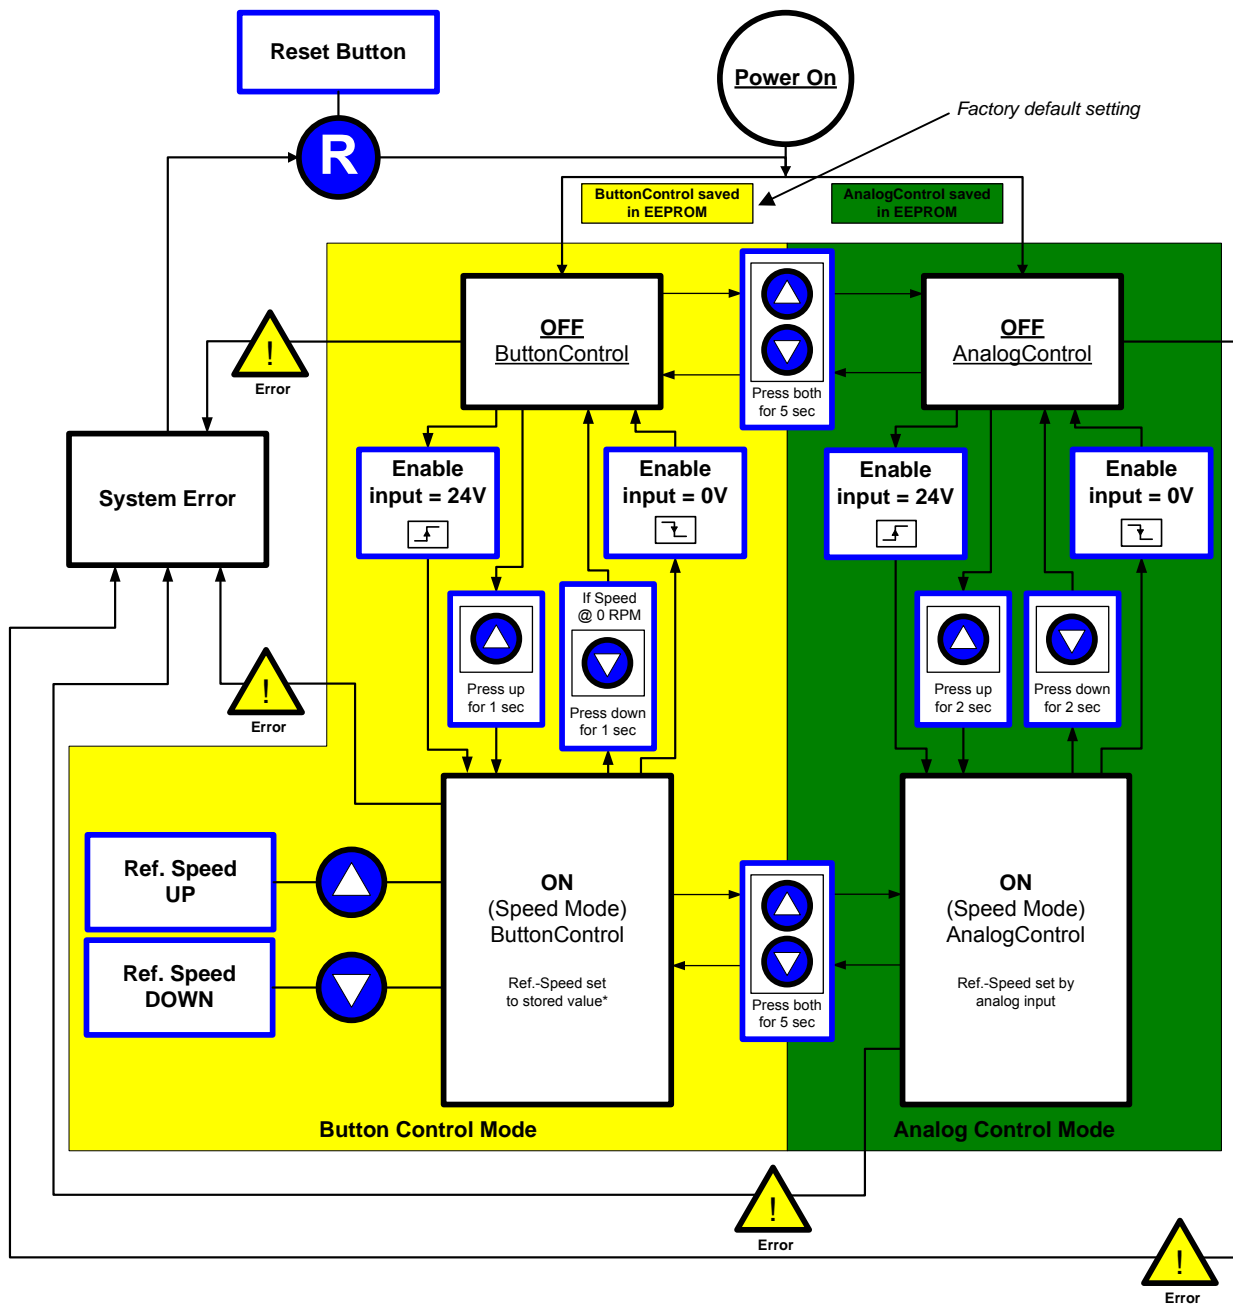

Figure 22: State diagram for operation with LPC-200.1 controller
The controller *LPC-200.1* allows stand-alone operation with manual speed setting ("Button Control Mode") as well as extended operation with analogue speed setting (Analog Control Mode). *Figure 22* shows the state diagram which can be controlled with the manual buttons and the signals on the "USER INTERFACE" connector. The operation mode can be chosen by pressing the "UP" and "DOWN" buttons simultaneously during 5 seconds. For the standard firmware C2.25 default setting ex factory is "Button Control Mode".
- When applying power the system defaults into the “Button Control Mode” and goes into the status “OFF ButtonControl” according to *Figure 22*. Levitation is disabled and the display indicates “OF”.